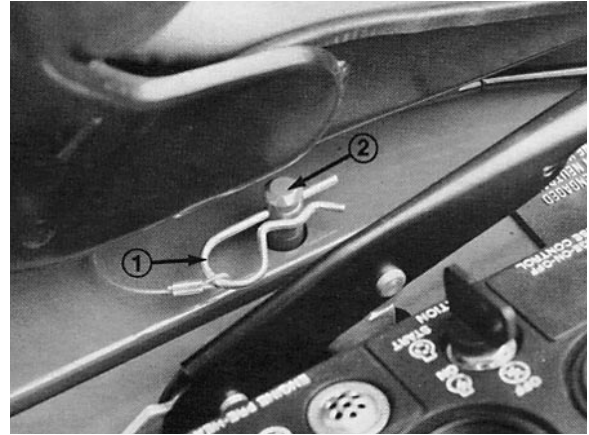

Figure 15
- Remove the retainer clip from the seat lock rod (Fig. 15)